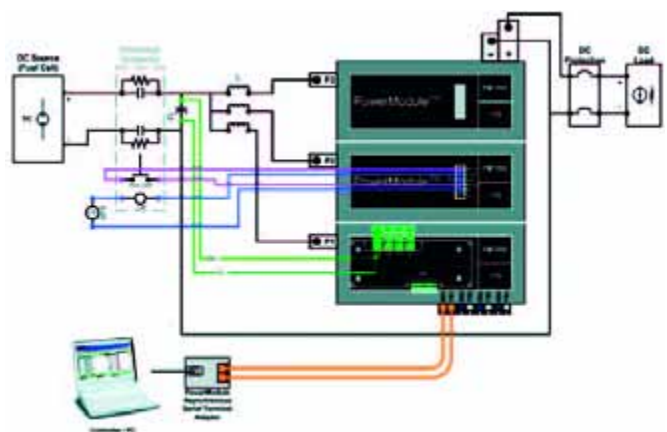

Figure 2b: Block diagram of a typical DC-DC Boost application.
- Boost mode (load voltage higher than source voltage) if the power source is replaced by a battery, ESS or other power source, in which case the voltage at the PM1000's DC bus is regulated (shown in Figure 2b)